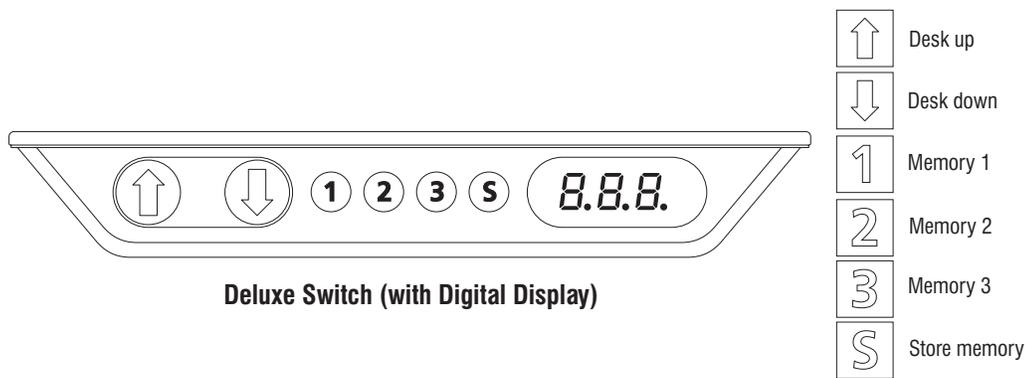

Figure 4
1. To raise or lower the unit, push and hold the Up or Down button, then release when the desired position is reached (Figure 4). The display will count up or down while running and continuously display the current height when the desired position is reached.
2. To store a position in memory, raise or lower the unit to the desired position. Press the Store memory button, the display will flash "S". Press the desired Memory button (1, 2 or 3) within two seconds. The position will be stored in memory and the display will show S1, S2 or S3 for one second. Up to three positions may be stored in memory (Figure 4).
3. To raise or lower to a pre-programmed position, push Memory buttons 1, 2 or 3 (Figure 4).